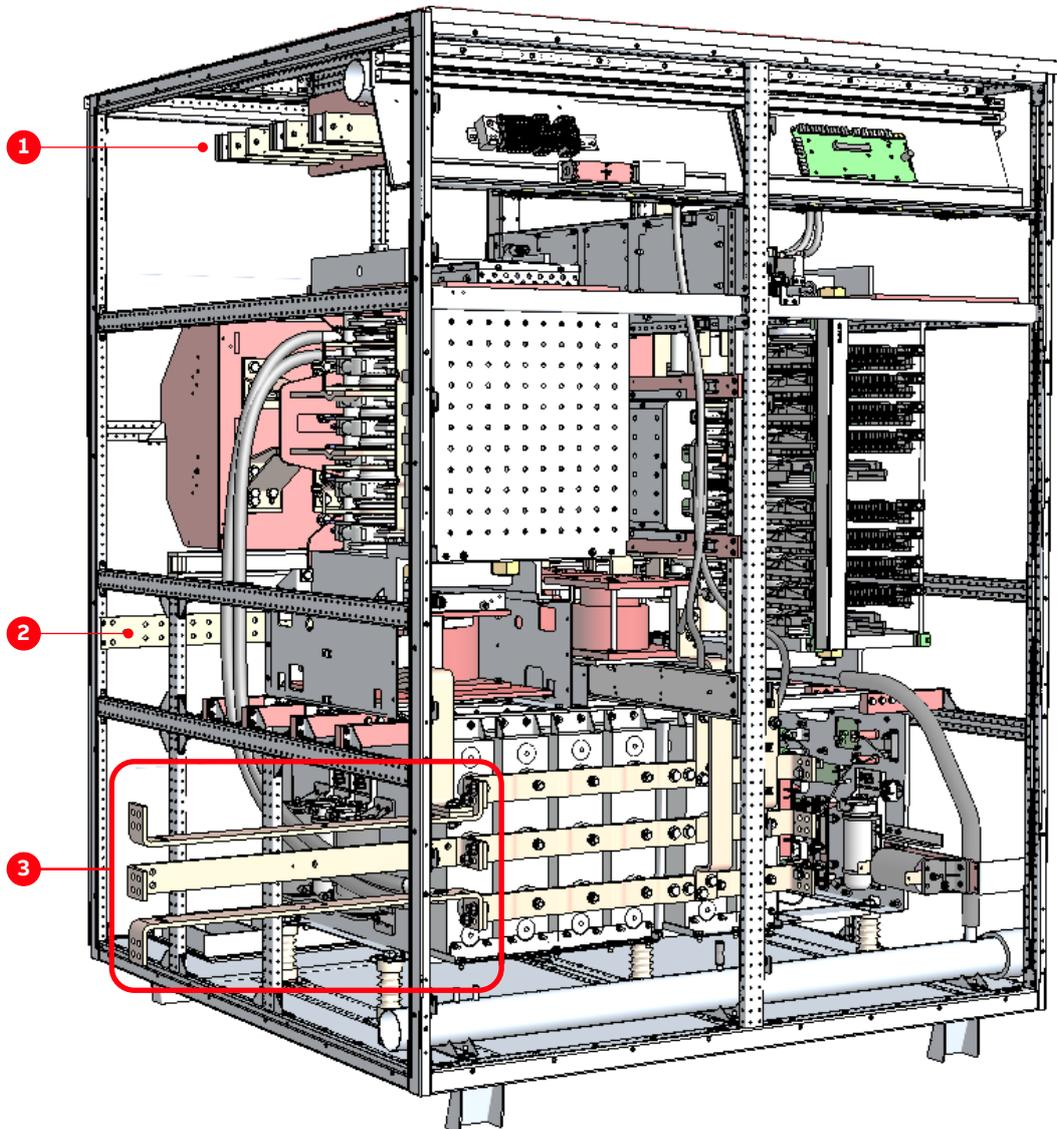

Figure 5-10 Busbar connections
- AC busbars (Fig. 5-10: 1)
- PE ground busbar (Fig. 5-10: 2)
- DC busbars (Fig. 5-10: 3)